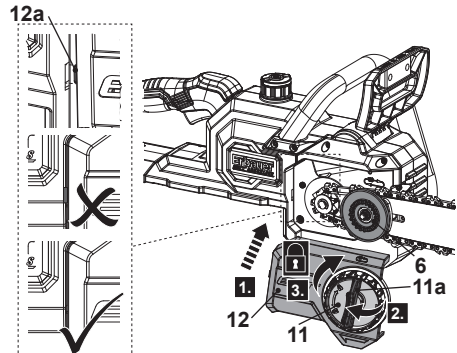

Fig. 6
8. Align and place the chain saw cover (12) over the mounting bolt (6); Flip the locking ring (11) up and hold it, then slightly tighten the locking wheel (11) clockwise (Fig. 6, steps 1, 2, 3). Ensure that the spigot (12a) engages correctly in the slot. Do not tighten the locking wheel (11) completely as saw chain tensioning is required first.